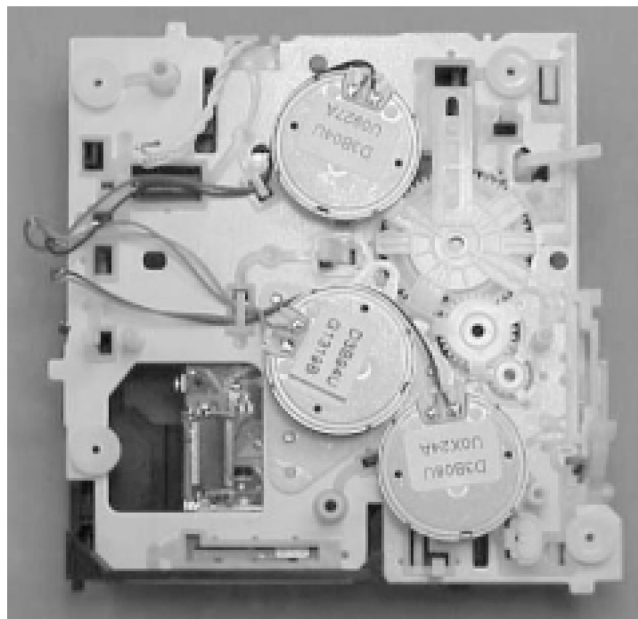

Fig.8-9
- 3) Confirm the respective motor installation positions and the wiring referring Fig. 8-9.